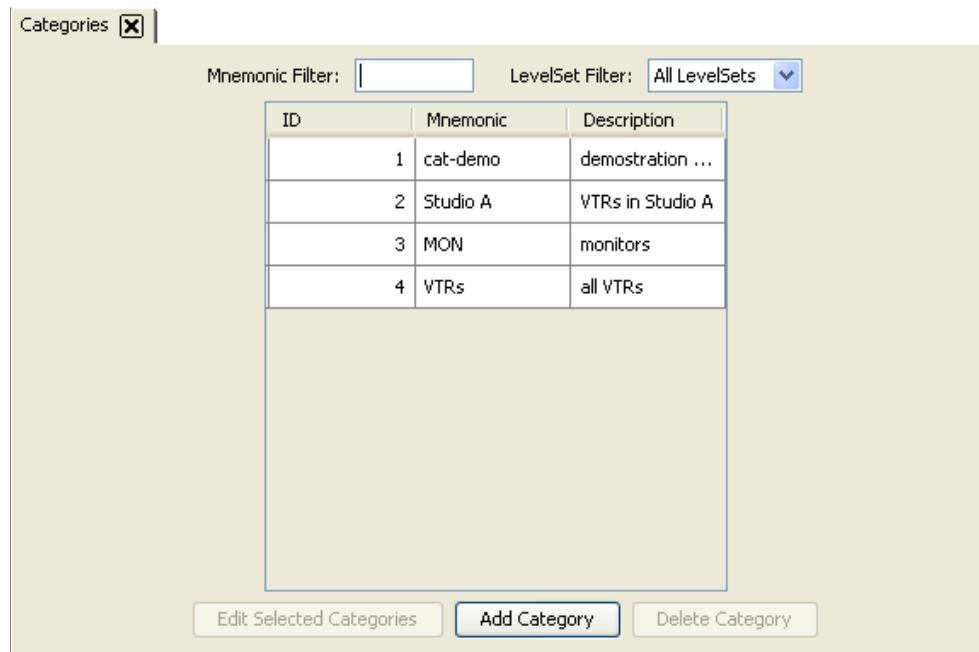

Figure 10-18. Categories Page
- 2 From the Navigation area, select the ‘Configuration’ pane and then ‘Categories’. The ‘Categories’ page appears, as shown in Figure 10-18.